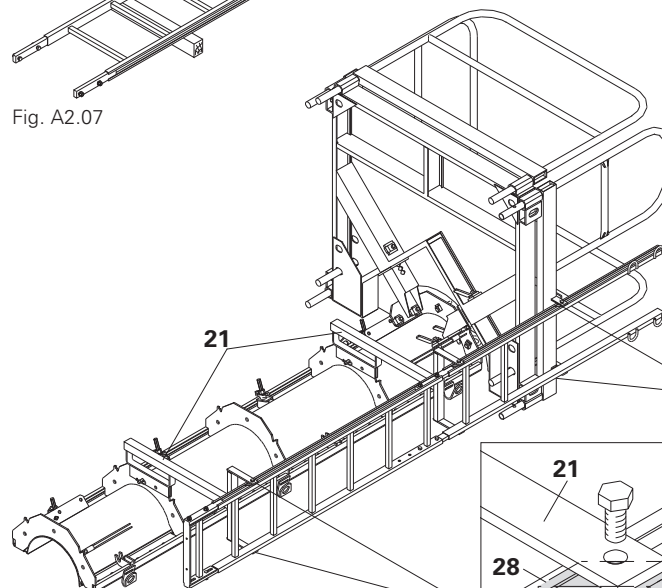

Fig. A2.08
3. Fix Ladder with Clamping Plates (28) to the ladder connections (21), SW 19. (Fig. A2.08 + A2.08.1)